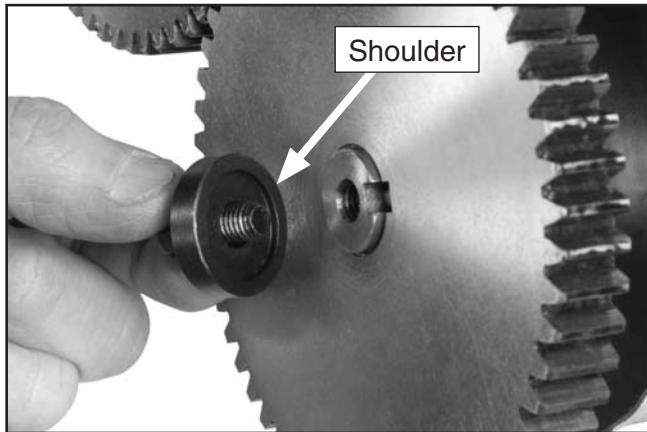

Figure 60. Shoulder washer positioning.
10. Slide the 57-tooth gear onto the lower spindle, install the shoulder washer on the spindle so the shoulder faces the gear (**Figure 60**), and install the cap screw.